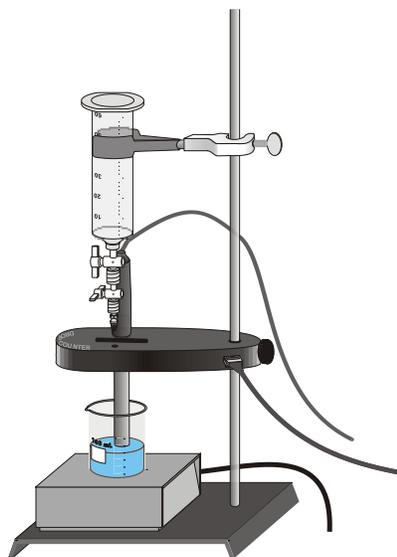

Figure 2
4. Connect the pH Sensor to CH 1 of the Vernier computer interface. Lower the Drop Counter onto a ring stand and connect its cable to DIG/SONIC 1 of the interface (see Figure 2).